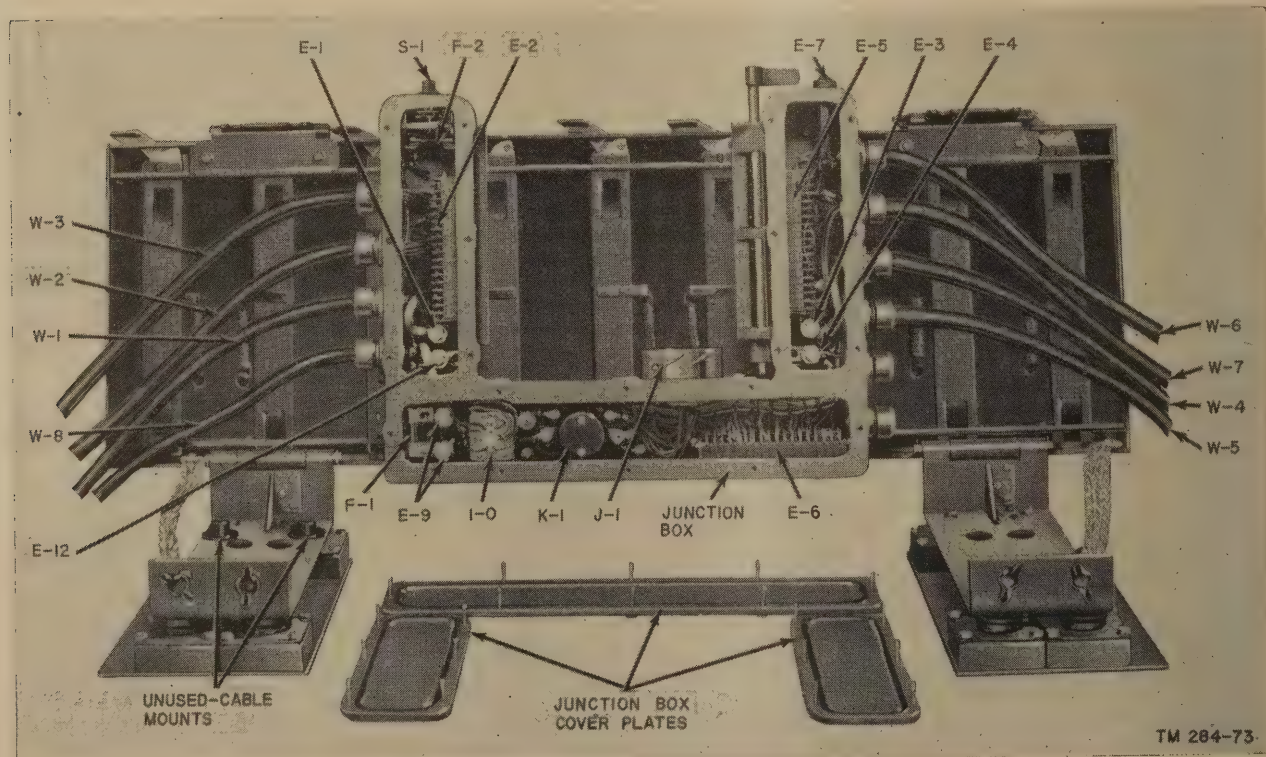

Figure 19. Mounting MT-297/GR, open view.
sible. Remove the three cover plates from the junction box (fig. 19).
e. Loosen the bondnut on the cable clamp at one of the unused cable entries on the right-hand side of the junction box (fig. 19). Remove the nut, metal ring, and rubber washer from the cable clamp and slip them over the prepared end of the cable in the same order (nut, ring, and washer). (The rubber plug, located in the cable entry, is for waterproofing an unused entry; it will not be re-required in the final assembly.)
f. Insert the prepared end of the cable through the cable entry and solder the individual conductors to the terminals of terminal board E-6 in the mounting (fig. 19); observe the color coding indicated in figure 21. The cable should be inserted until the outer insulation protrudes on the inside of the junction box. Allow sufficient slack for all terminal connections.
h. Before replacing the covers on the junction box, check the tightness of solderless connectors E-1, E-3, E-4, E-9, and E-12 (fig. 19). Cable compression can cause these connectors to become loose over a period of time. Also check to see that fuse F-1 is seated securely.
n. Connect the battery cable (W-8 in fig. 19) in accordance with instructions furnished with the installation unit. Generally, the cable will connect to a vehicular junction box rather than directly to the battery. Use the connector and bondnut supplied with the basic unit to secure the cable at its point of entry into the junction box. Leave enough slack to allow the mounting table to be swung back without straining the cable.